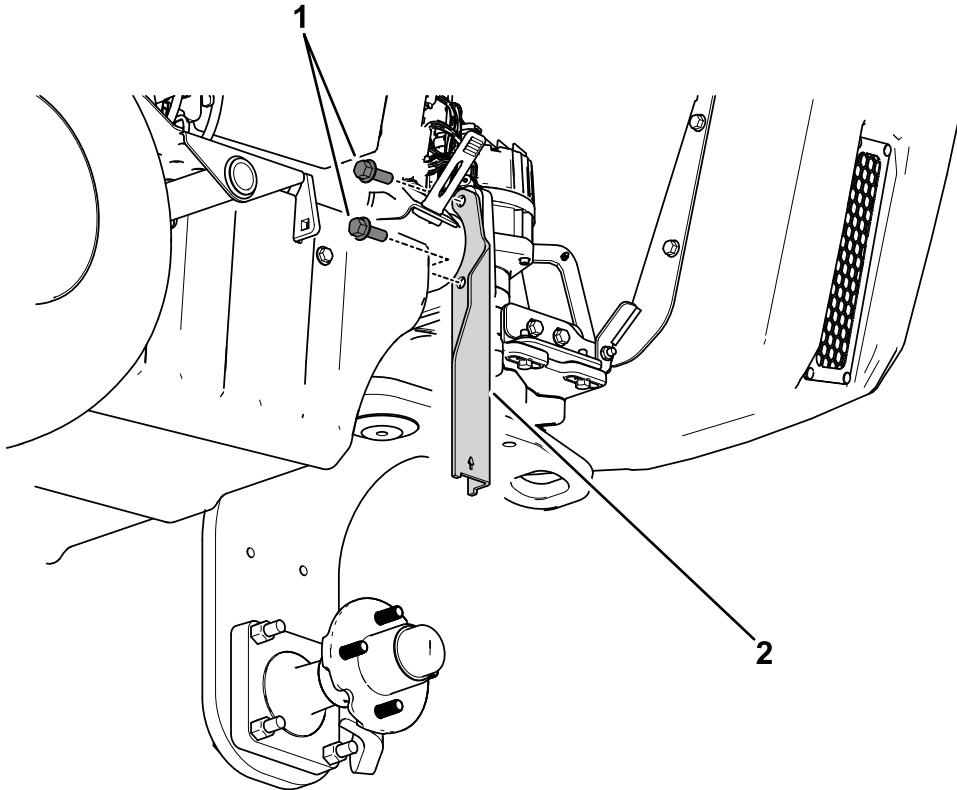

Figure 49
1. Use the existing bolts (7/16 inch) from the steering housing (near the steering unit) to secure the jack bracket to the steering housing (Figure 49).